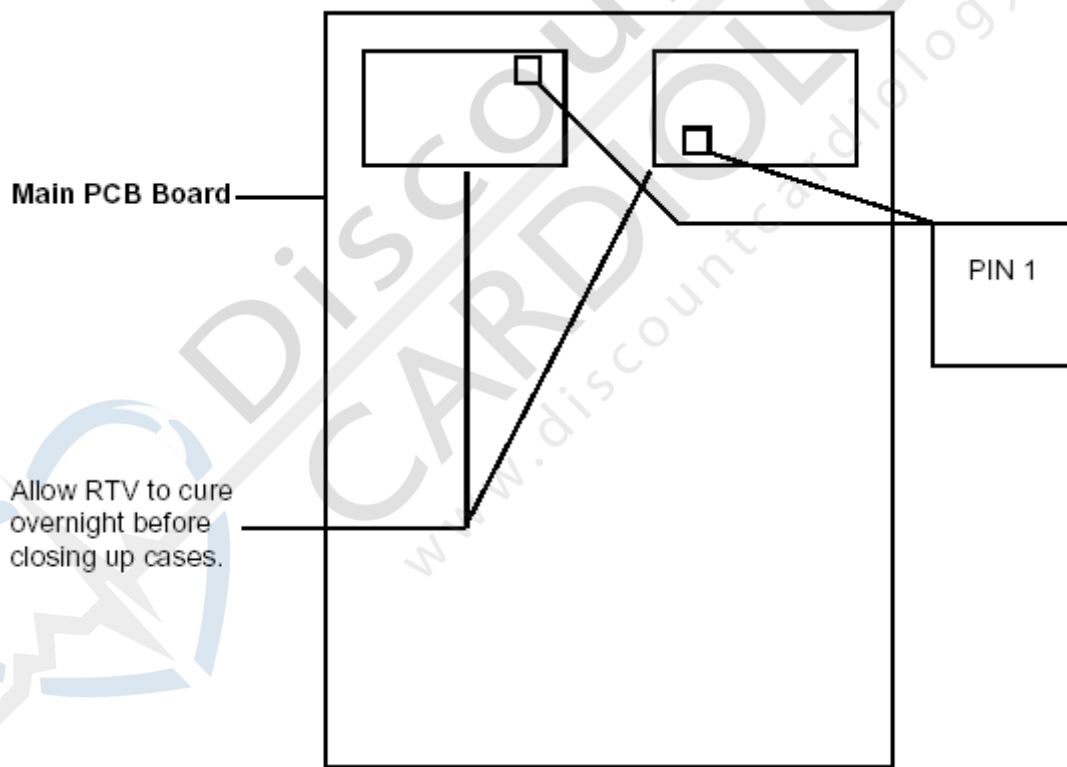

Figure 4-1. DC to DC replacement.
23. Install a replacement converter as per Figure 4-1 below.